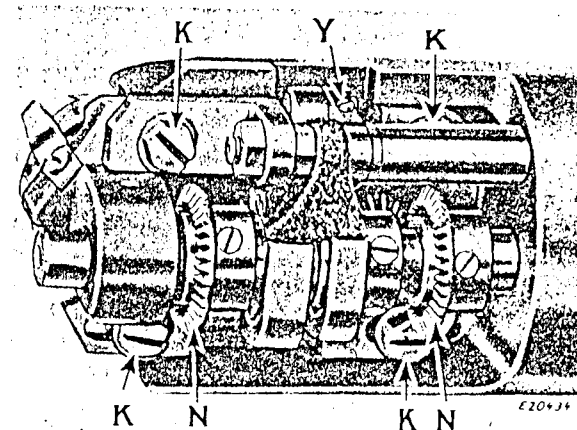
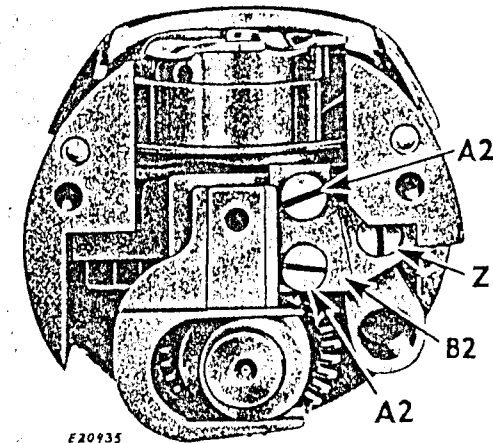

Fig. 17. Adjustment of Hook Saddles
Fig. 18A. Adjustment of Feed Bar
If the sewing hook runs too far from or too close to the needle, loosen the hook saddle screws (K, Fig. 17) just enough to permit the saddles to be driven by light blows to the position desired, then retighten the hook saddle screws.
If the hook is not timed correctly, loosen the two set screws in the hub of the hook driving gear (N, Fig. 17) and turn this gear on the shaft until the point of the hook is at the center of the needle. Then securely tighten the two set screws in the gear.
Usually when the feed dog is at its highest position, it should show a full tooth above the throat plate. To raise or lower the feed dog, remove the cylinder end cover, loosen the feed dog screw (D, Fig. 4) and adjust the feed dog to the required height, then securely tighten the feed dog screw (D). To adjust the feed dog on Machine 154w101, it will be necessary to remove the outside hook saddle and two screws (K, Fig. 17).
To compensate for looseness in feed bar mechanism, loosen screw (Y, Fig. 17) and tighten screw (Z, Fig. 18A), being careful not to make it bind the mechanism, and retighten screw (Y, Fig.
17). Then loosen the screws (A2, Fig. 18A) and with a light pressure push the tapered gib (B2, Fig. 18A) upward, retighten the screws (A2, Fig. 18A). Caution: Before operating machine, make sure that the feed mechanism is not so tight as to cause a bind.